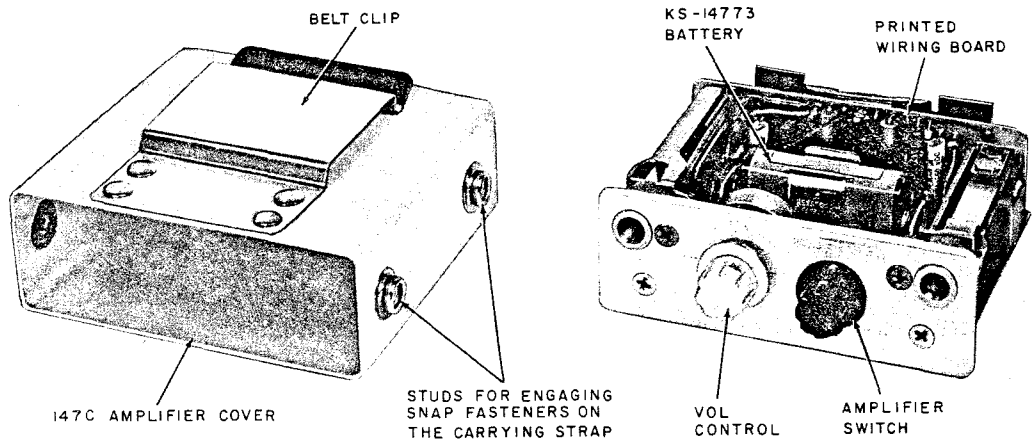

Fig. 2—147C Amplifier
2.02 The 147C amplifier shown in Fig. 2 is a battery operated amplifier that is 4 inches by 4 inches by 1 1/2 inches and weighs about 1-1/4 pounds. The external design is identical to that of the 147B amplifier. The three stages of amplification are provided by solid state devices with tuned input and output transformers. These devices are mounted on a printed wiring board and is enclosed in a metal case.